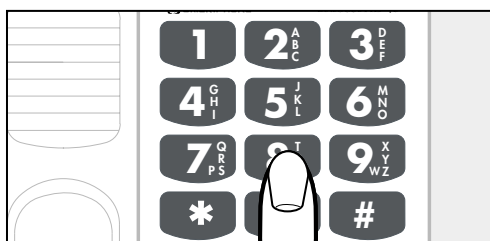

Figure 18 - Telephone Keypad
2. Enter the phone number on the keypad (Figure 18) just as you would dial it normally.